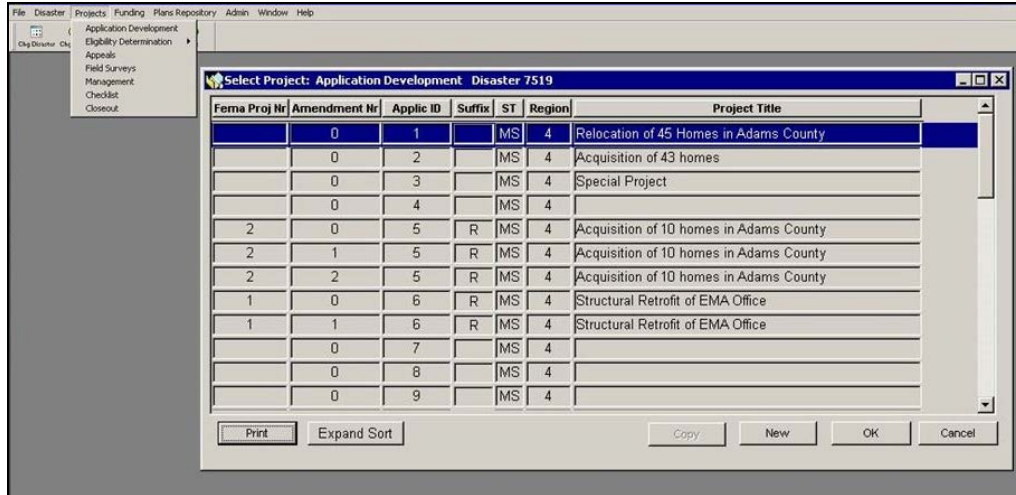

Figure 6-1: Mitigation > Projects > Application Development
1. On the MITIGATION menu, click Projects > Application Development. When the Application Development screen appears, then select New (Figure 6-1).